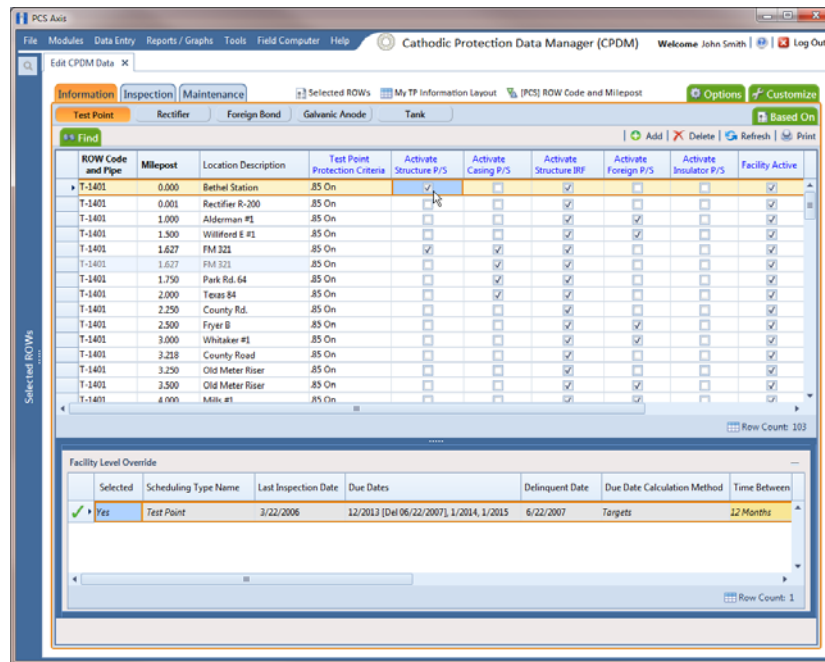

Figure 7-95. Information
- 3 Open the *Information* grid for a facility type. For example, click the **Information** tab  and then a facility type button, such as **Test Point**  (Figure 7-95, page 313).